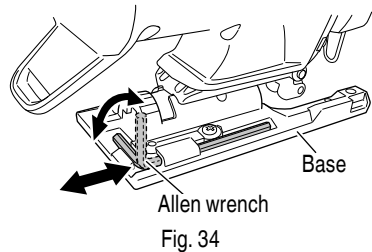

Fig. 34
- It is possible to house the axiliary allen wrench on the base (see Fig. 34).